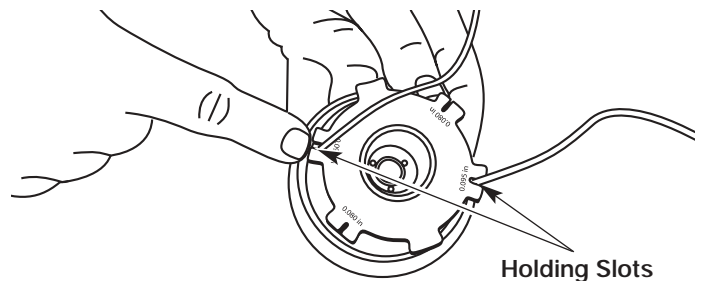

Fig. 34
- Insert the ends of the line into the two holding slots (Fig. 34).